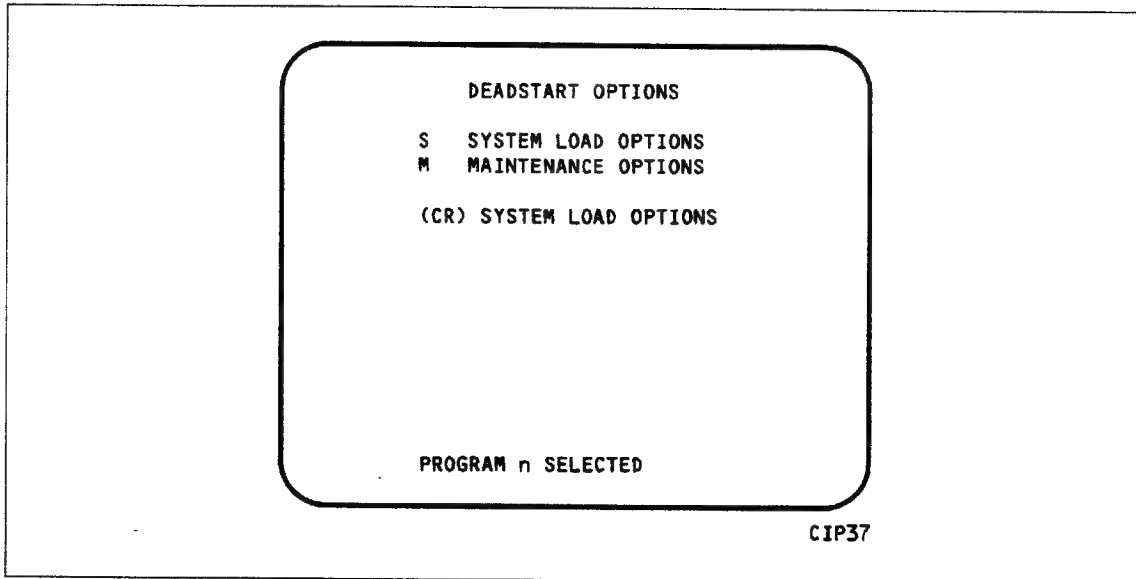
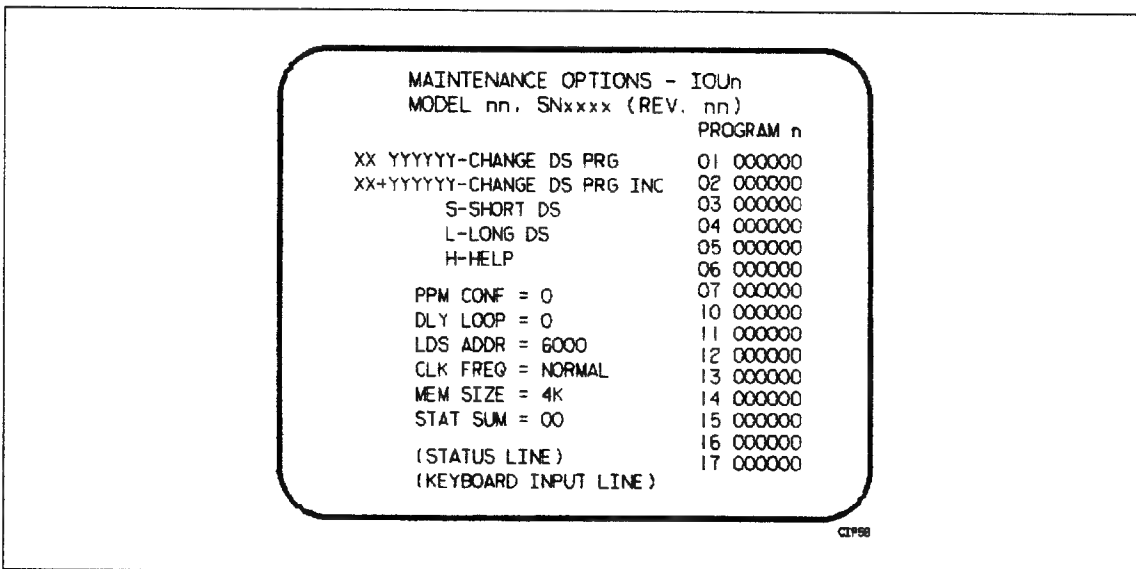

Figure 3-1. Deadstart Options Display (Single IOU Systems)
Figure 3-2. Maintenance Options Display (Single IOU Systems)
- ___ 1. When either a CC634B console with option GK427A installed or a CC545 console has been initialized for use as the primary operator console, complete the following to bring up the DEADSTART OPTIONS display shown in figure 3-1.
- ___ 2. When a CC634B without option GK427A installed has been initialized for use as the primary operator console, complete the following steps to bring up the DEADSTART OPTIONS shown in figure 3-1.
- ___ 3. If the appropriate deadstart program is selected,¹ type S or press (CR); the INITIAL OPTIONS display appears. Proceed with step 5.
- ___ a. Type M to bring up the MAINTENANCE OPTIONS display shown in figure 3-2.
- ___ 1. If you are deadstarting your OS from either a CC634B with option GK427A installed or from a CC545, perform the following steps to bring up the DEADSTART OPTIONS display shown in figure 3-1:
- ___ 2. If you are deadstarting your OS from a CC634B without option GK427A installed, perform the following steps to bring up the DEADSTART OPTIONS display shown in figure 3-1:
- ___ 3. From the DEADSTART OPTIONS display, type S or press (CR); the INITIAL OPTIONS display appears.
- ___ 4. From the INITIAL OPTIONS display, press (CR) to select the default option, OS LOAD AUTOMATIC. This option assumes that the deadstart program is set correctly for deadstart level (0, 1, 2, 3) and for CMRDECK selection (NOS), or for CMR selection (NOS/BE), or for DCFILE selection (NOS/VE).